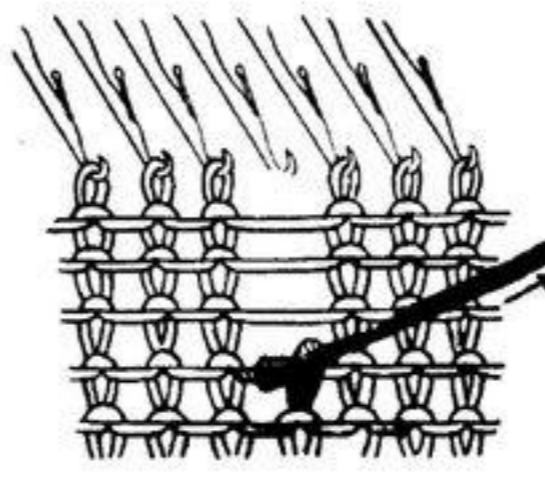

Fig. 34-3
3. Continue to pull the needle back until the strand is drawn through the loop. (Fig. 34-3 & 4)